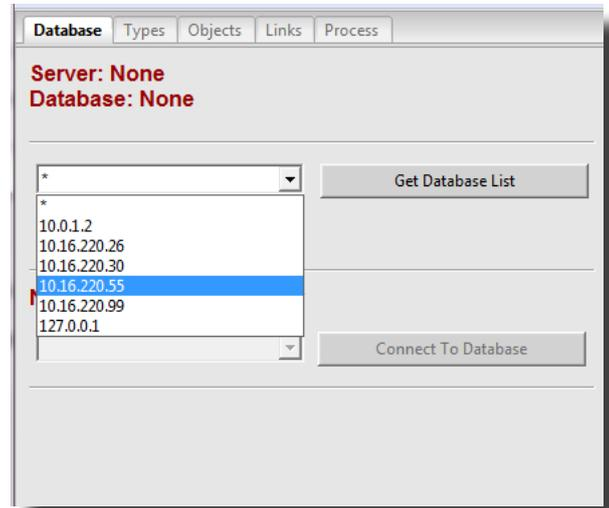

Figure 28: Plant Editor - Get List of Databases
- a. Select a server from the first dropdown list on the first page of the app (Figure 28), then click "Get Database List." This action will show a list of databases available on the selected server in the second dropdown list on this page.